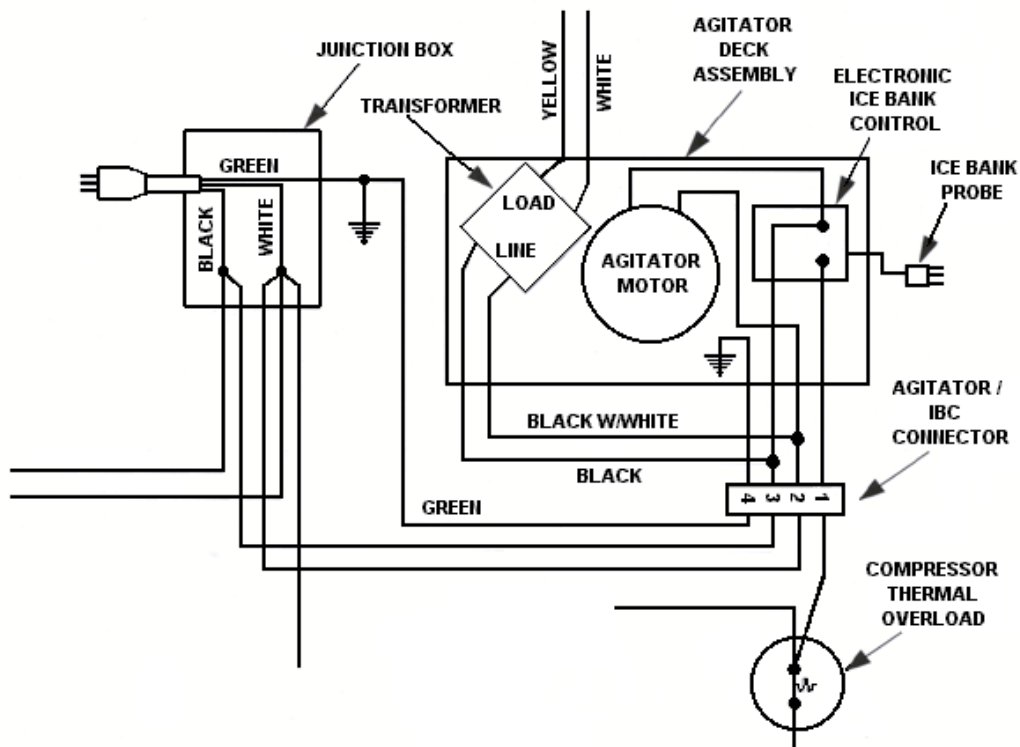
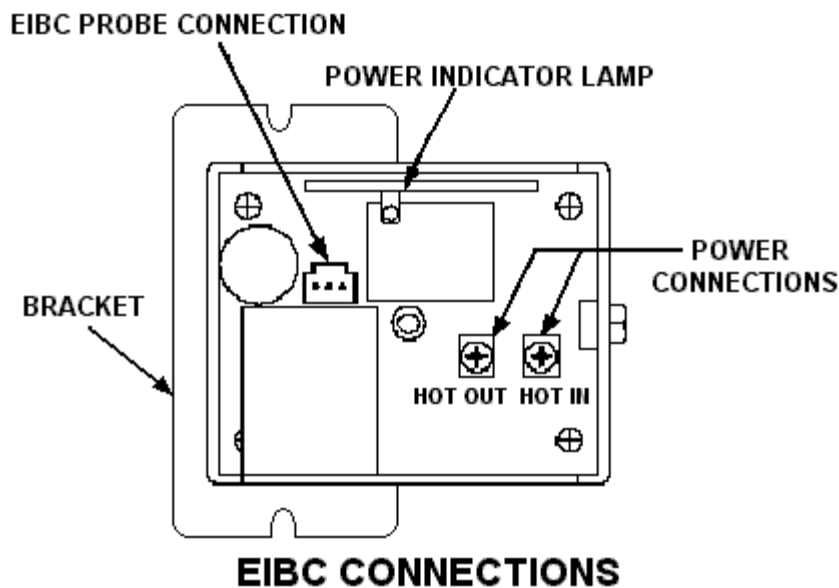

Figure 1B
Figure 2
- 1.7 Remove one (1) screw holding the bracket on the Lancer Electronic Ice Bank Control housing (EIBC) and loosen the other. Spin the bracket 90° as shown in Figure 2, reinstall screw and tighten both screws.
- 1.9 Remove Cover of EIBC Control Housing Assembly. Connect lead from Compressor to screw terminal marked "HOT OUT". Connect lead from Junction Box and Agitator Motor to terminal marked "HOT IN" (see Figure 1B and Figure 2).
- 1.13 Hold the Agitator Deck Assembly over the water bath tank and route Probe Lead through Deck by passing the lead up through the hole used by the Ranco Probe. Place the Agitator Deck into position while pulling all excess wire through to top side of Deck. Make sure it does not come into contact with Agitator Motor shaft. Plug the Probe Lead into the connector on the PCB as indicated in Figure 2.